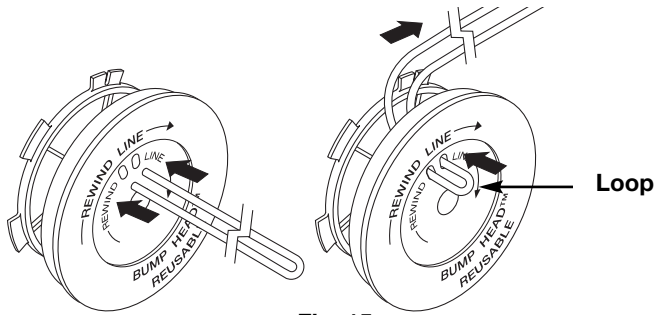

Fig. 15
6. Take approximately 20 feet (6 m) of new trimming line, loop it into two equal lengths. Insert each end of the line through one of the two holes in the inner reel (Fig. 15). Pull the line through the inner reel so that the loop is as small as possible.